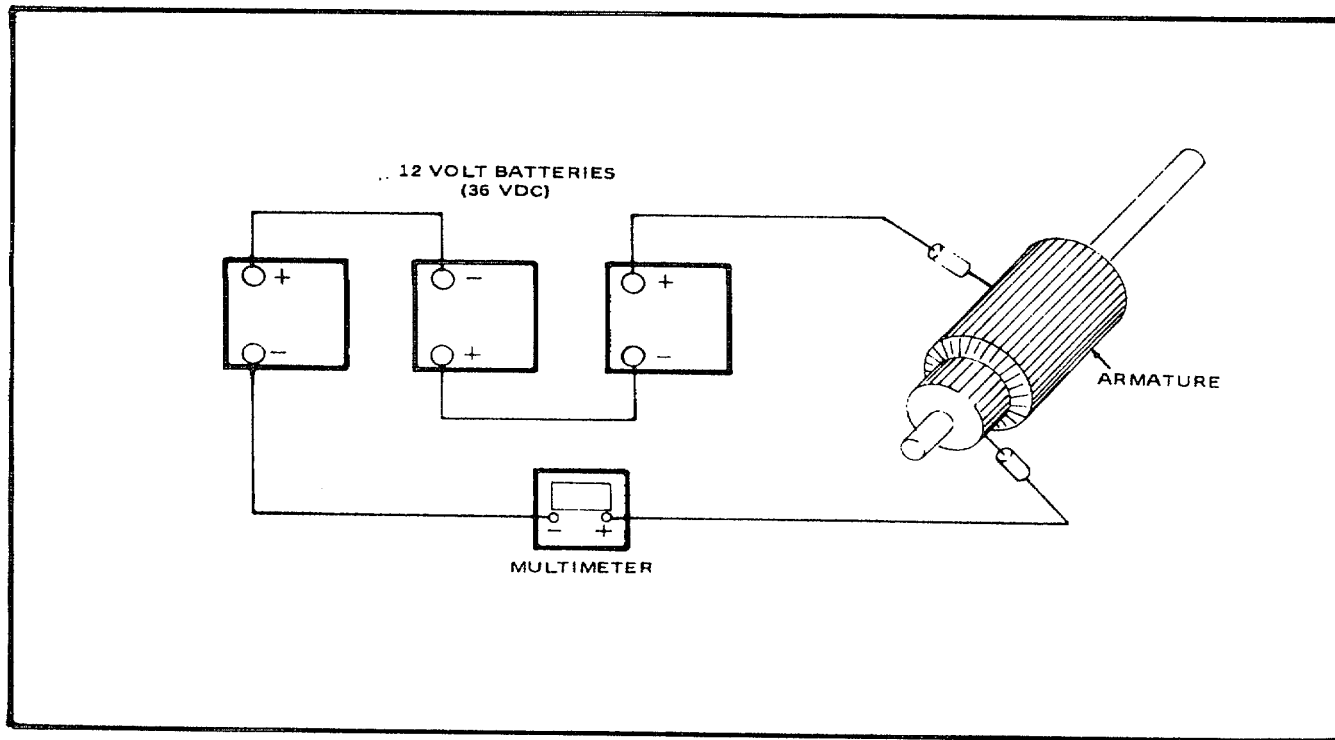

Figure 6-15. Grounded Armature test Setup
- (1) Damaged solenoid.
(2) Fouled pinion bearing.
(3) Damaged pinion.
(4) Test armature and field windings as follows:
- (a) See figure 6-15. Touch multimeter positive lead to each commutator riser bar and jumper lead to the armature.